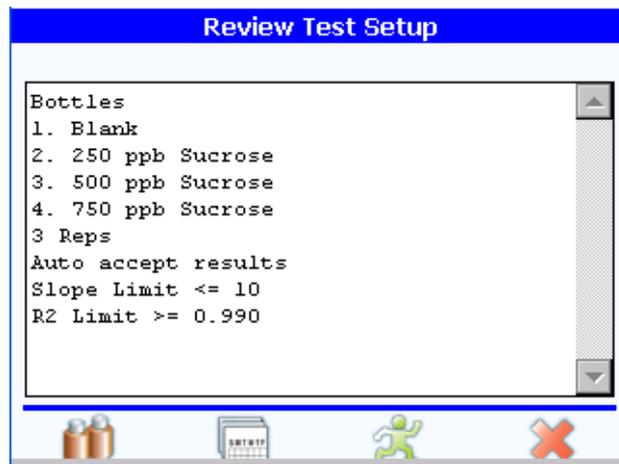
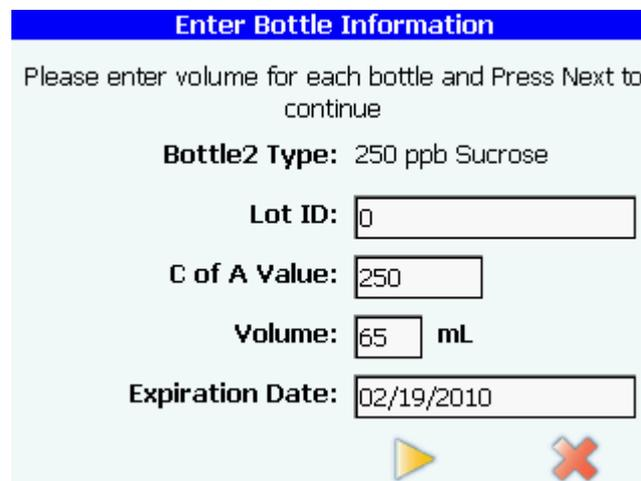

Figure 6-6 Review test setup dialog box
Figure 6-7 Enter bottle information dialog box
- **Forward icon** takes you to the review test setup dialog box if RFID tagged bottles are being used (see Figure 6-6), or to the enter bottle information dialog box if bottles that are not RFID tagged are being used (see Figure 6-7).
- 9) Touch the forward icon. If bottles have been properly loaded and the RFID tags can be read, the review test setup dialog box appears. See Figure 6-6. If the bottles do not have RFID tags, the enter bottle information dialog box appears. See Figure 6-7.
- **Forward icon** takes you to the review test setup dialog box. See Figure 6-6.
- 13) Touch the forward icon. If bottles have been properly loaded and the RFID tags can be read, the review test setup dialog box appears. See Figure 6-6, page 91. Otherwise, the enter bottle information dialog box appears. See Figure 6-7, page 91.